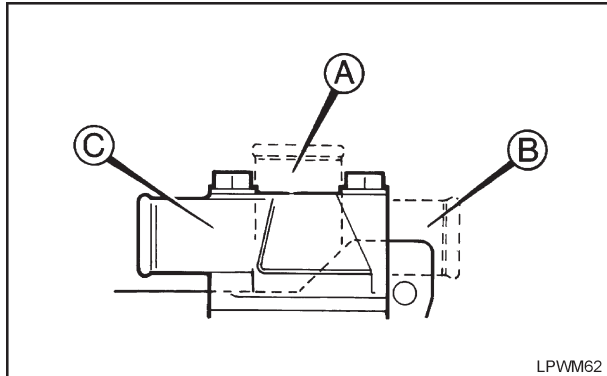

Figure 2.49.1 Thermostat Housing Cover
2. Replace the thermostat into the housing taking care to ensure the jiggle pin (A) moves freely and is located as shown towards the recess. If a jiggle pin is not fitted the round hole must be in this position.
3. Replace the cover in the correct plane, see 'Figure 2.49.1'.